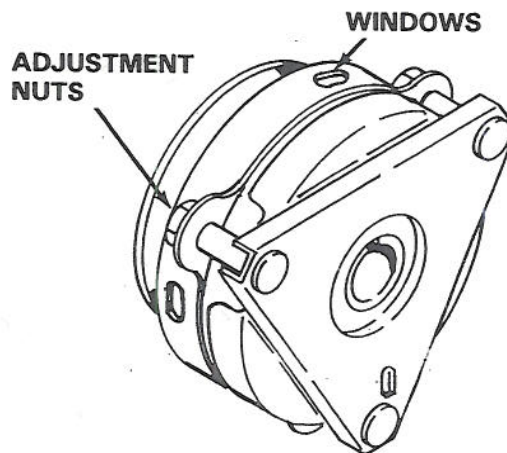

FIGURE 3
2. Locate the three "windows" or "notches" where the air gap is checked (See Figure 3).